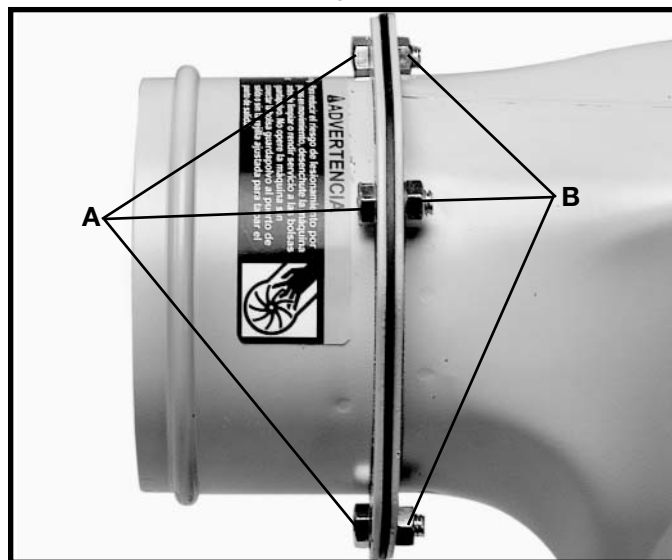

Fig. 6
2. Insert a 5/16-18x5/8" hex head bolt thru the outtake flange, outtake flange gasket and the base unit as shown in Fig. 6.
3. Thread a 5/16" hex nut (B) onto the 5/16-18x5/8" hex head bolt (A) Fig. 6 and tighten securely.